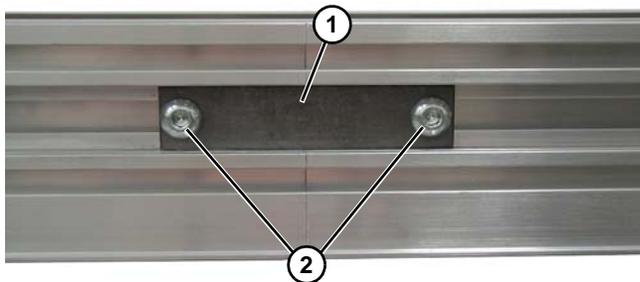

**Figure 7**
- Roll out conveyor belt and place conveyor frame sections (**Figure 7, item 1**) into belt loop.